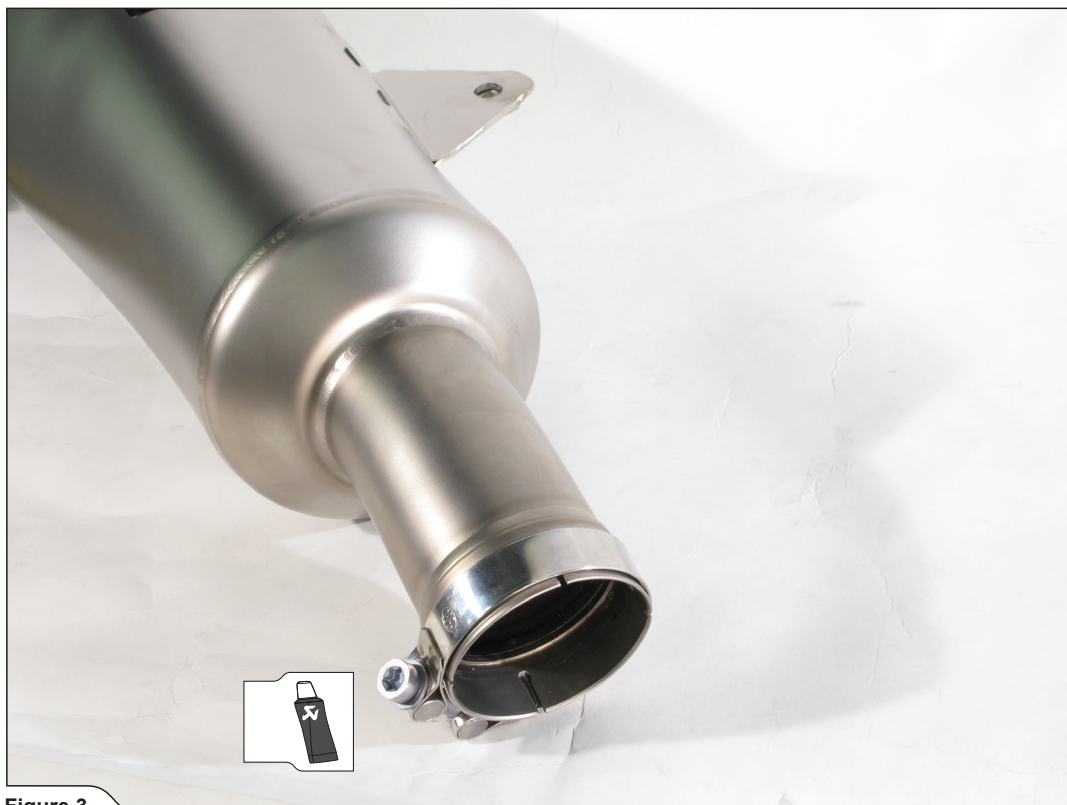

Figure 3
1. Assemble the clamp from Akrapovič installation kit onto the muffler's inlet pipe, as shown (Figure 3).